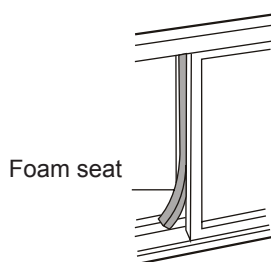

Fig.15
6. Cut the foam seal to an appropriate length and seal the open gap between the top window sash and outer window sash. See Fig. 15